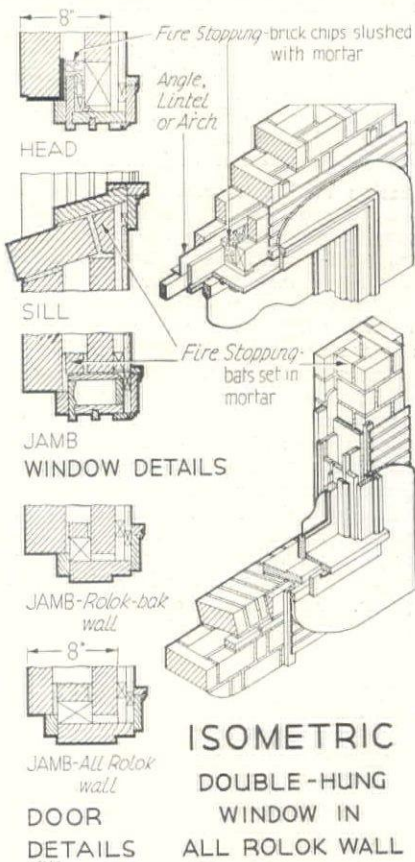

FIG. 3—ROLOK WALLS
FIGURE 3, below, illustrates common treatment of exposed joints: (1) weathered, (2) flush, (3) "V" joint, (4) concave. All are superior in weather-resistive qualities to struck joints (not illustrated), which are similar to No. 1 except that mortar faces slope inward from top to bottom
Texture of the joint may resemble that of the brick or contrast with it, and is controlled by the use of a steel or wood surfacing tool, and the use of coarse sand or fine gravel in the mortar mix. Four types of exposed joints are illustrated in Figure 3. Tooled joints (types 3 and 4) which compress and spread the mortar after it has set slightly, produce the best weathering properties.
Openings in Hollow Walls may be detailed substantially as shown in Fig. 3. Standard door and window casings and trim are normally employed, backed by fillers of brick or blocking to close off the hollow space and to form the necessary nailing points.